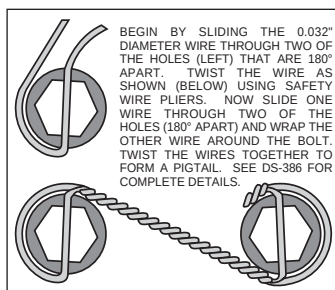

Figure 3. Safety Wire Diagram
- Orient the rotor (5) and the hat (6) as shown in Figure 1 and Photo 2. Attach rotor to hat using bolts (7) and washers (8). Using an alternating sequence, torque to 25 ft-lbs. For an added measure of security, the bolts may be safety wired using standard 0.032 inch diameter stainless steel safety wire as shown in Figure 3. Please refer to Wilwood's data sheet DS-386 (available at www.wilwood.com/Pdf/DataSheets/ds386.pdf) for complete safety wire installation instructions.